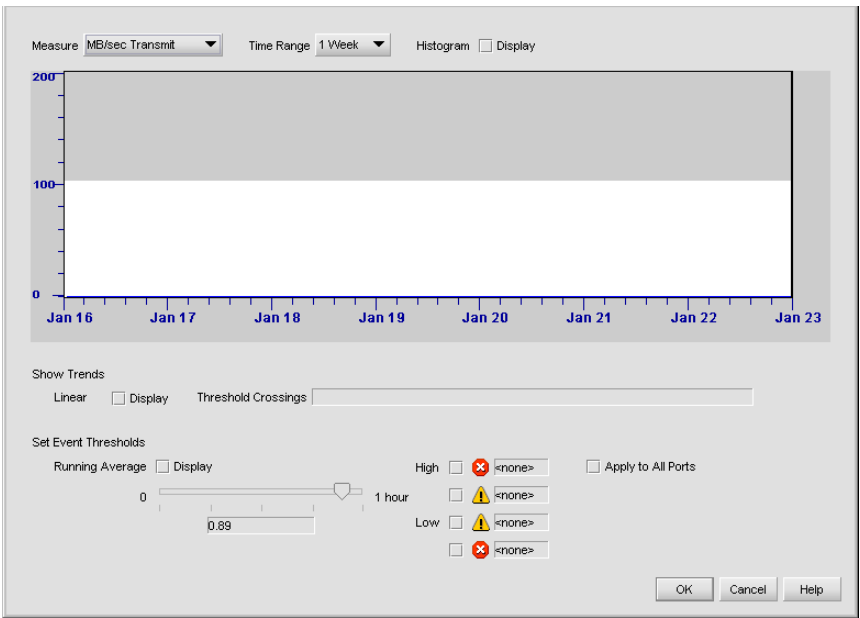

Figure 70 Port Performance Graph dialog box
2. Select a port row and click **History/Events** (or double-click a port row) to display the Port Performance Graph dialog box (Figure 70).